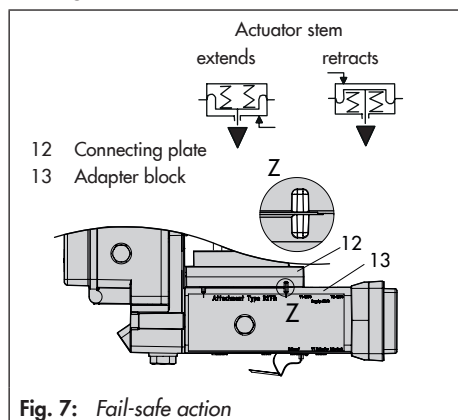

Fig. 7: Fail-safe action
7. Insert the screws (13.1) through the middle holes of the adapter block (13).
8. Place the connecting plate (12) together with the seal (12.1) onto the screws (13.1) corresponding to the fail-safe action "actuator stem extends" or "actuator stem retracts". The fail-safe action that applies is determined by aligning the groove of the adapter block (13) with the groove of the connecting plate (12) (Fig. 7).